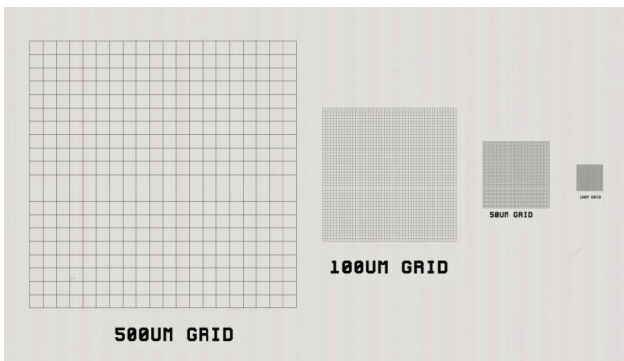

Figure 1
1. Place the grid slide on the stage and change to the highest magnification optics (Figure 1)